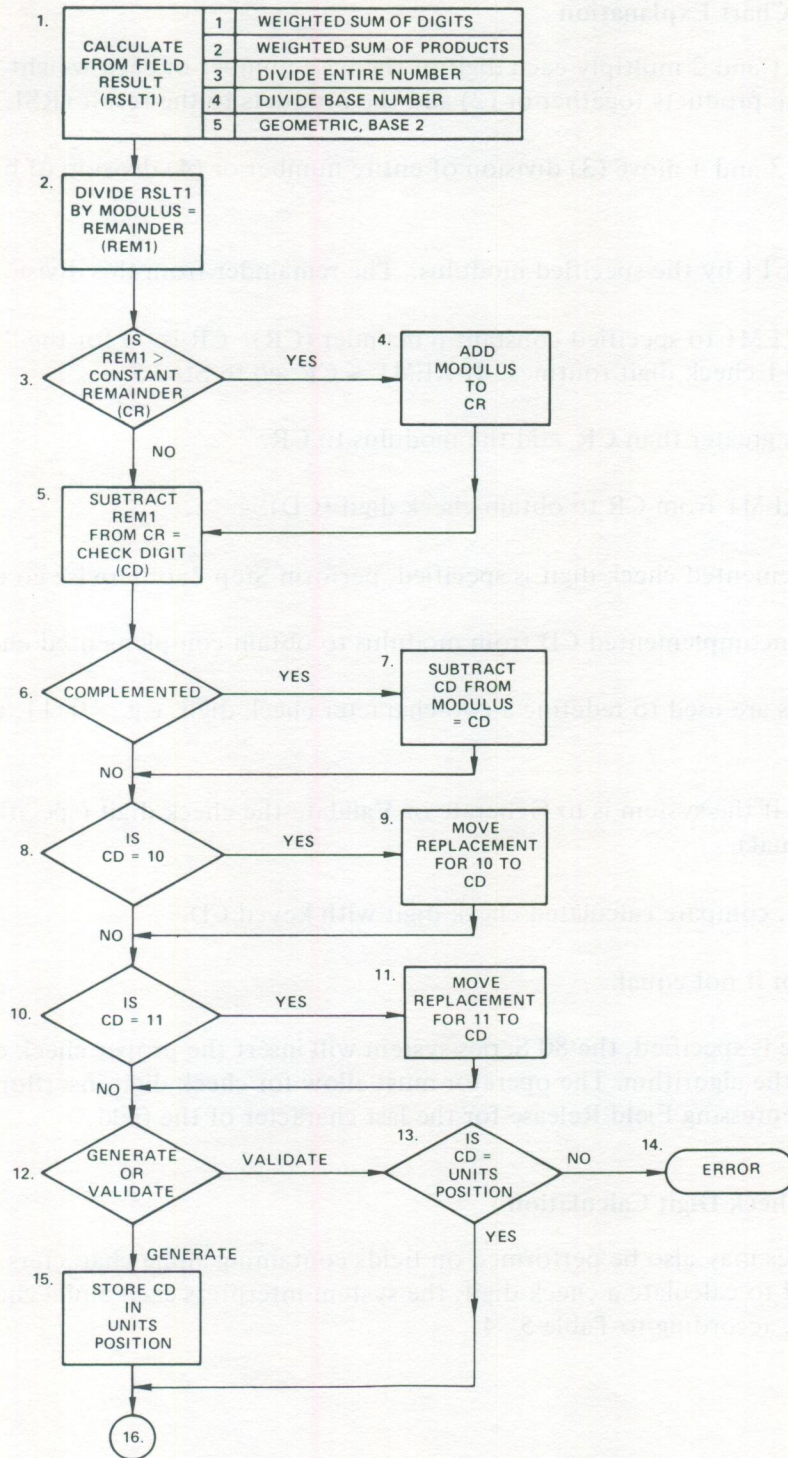

Figure 5-15. Check Digit Calculation Flow Chart
- **Constant Remainder** – All check digit computations allow for the specification of a constant remainder. Normally, the constant remainder is specified as 00 (field release), as in the case of the standard Modulo 7, 10 and 11 check digits; however, the constant remainder always figures into the check digit calculation (even if specified as 00), as illustrated by Figure 5-15, Step 3.
From this point the calculation of a check digit is identical for all types (refer to Figure 5-15).
From this point the calculation of the check digit is identical for all types (refer to Figure 5-15).
The entire number is = RSLT1 (refer to Figure 5-15). At this point the check digit is calculated identically to Steps 1 and 2 above.
The base number is = RSLT1 (refer to Figure 5-15). At this point the check digit is calculated identically to Steps 1, 2, and 3 above.
- **Modulus 7 Check Digit** (refer to Figure 5-15)
3. If $6(REM1) \leq \emptyset (CR)$ go to Step 5.
● **Modulus 11 Check Digit** (refer to Figure 5-15)